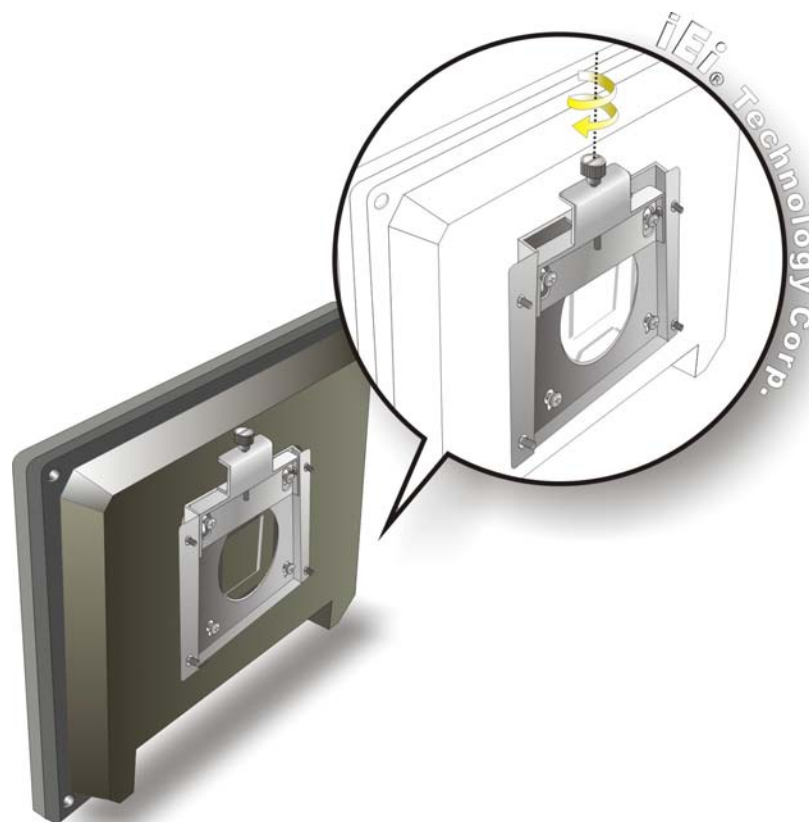

Figure 3-12: Secure the Panel PC
Step 9: Secure the panel PC by fastening the retention screw of the wall-mounting bracket. (Figure 3-12).